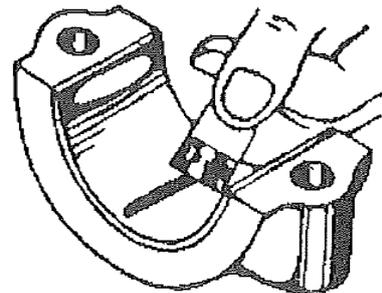

Fig. 2.
5. Compare the width of the flattened Flexigauge with the graduation of the envelope. The figure within the graduations indicates the clearance in thousands of an inch or millimetres, depending on which side of the envelope is used. (fig 2)